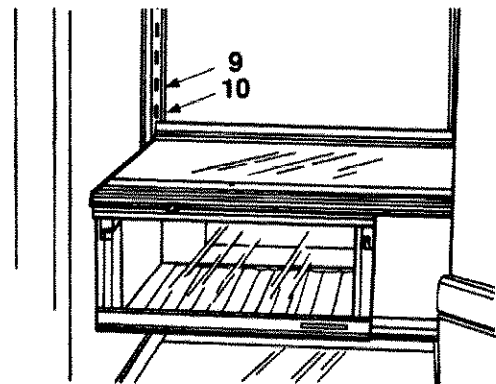

Figure 19
- g. Counting down from top slot of metal track on rear wall, use only slots 9, 10, 11, or 12 for new meat drawer position. Cold air supply tube must completely cover air inlet port on left rear refrigerator side wall. See Figure 19.